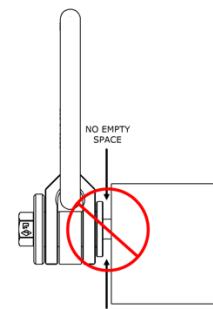

Fig 3
- Drill and tap the workpiece so that the hoist ring bolt is installed perpendicular to the surface of the workpiece. Countersink the tapped hole to prevent “swelling” of the top thread when the hoist ring bolt is torqued. The workpiece surface must be flat, providing complete contact for the hoist ring bearing surface. The tapped hole must be deep enough to ensure the hoist ring bolt is fully engaged and there is no empty space between the hoist ring bearing surface and the workpiece surface (fig.3) **otherwise the color of the indicator will never change to black indicating there is no preload in the bolt.**